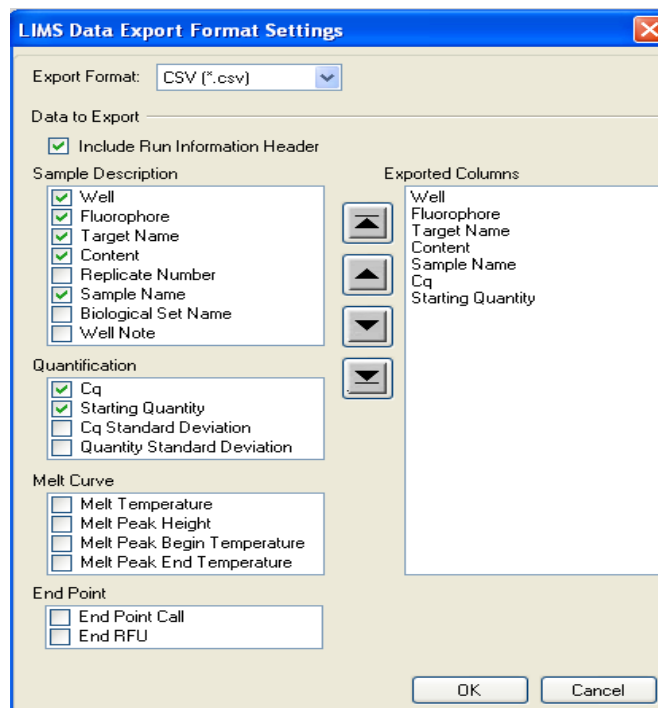

Figure 112. LIMS Data Export Format Settings window.
1. Select **Tools > Options** from the main software menu bar then select the **LIMS** tab (Figure 112) to define the folder location that will contain the LIMS protocol (*.prcl), LIMS file (*.plrn), and exported data.
3. Click the **Data Export Settings** button to specify the file format to be used for the exported data and which information fields will be exported (Figure 112).